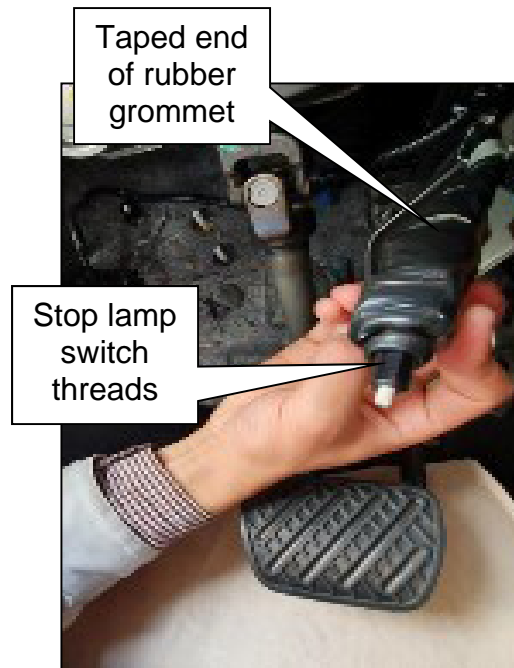

Figure 3
7. Tape off the large opening of the rubber grommet as shown in Figure 3.
- The tape should be applied to the brake switch harness a minimum of one (1) inch beyond the end of the rubber grommet.